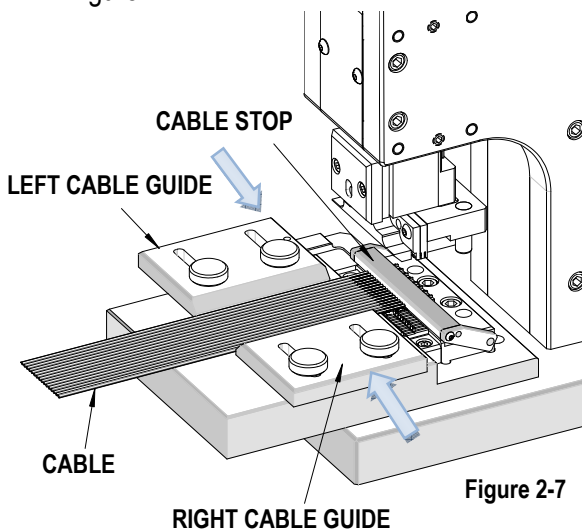

Figure 2-7
4. Slide the cable up to the cable stop. See Figure 2-7.